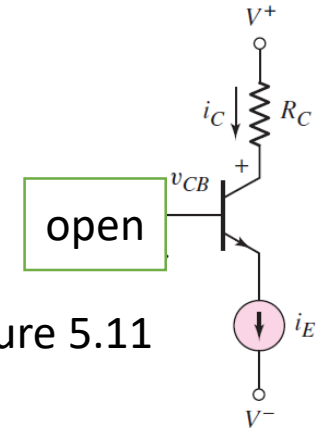

Figure 5.11
- In the common-base circuits in Figure 5.11, if we set the current source  $i_E = 0$ :